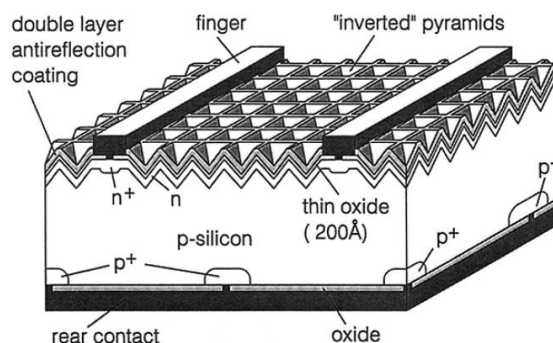

Figure 1.1: Schematic of a PERL cell (Zhao et. al., Solar Energy Materials and Solar Cells 41/42(1996) 87-89) (6)
- ii) Despite its smaller absorption coefficient, Si is the preferred option in commercial solar cells. Provide two reasons for this. (5)
- b. Discuss how the doping concentration in each epilayer of a Si p-i-n diode solar cell affects the output power. (4)
- c. The solar cell structure shown in figure 1.1 is known as Passivated Emitter & Rear Locally-diffused (PERL) cell. Describe the key features of the PERL cell that enables it to achieve high conversion efficiency.